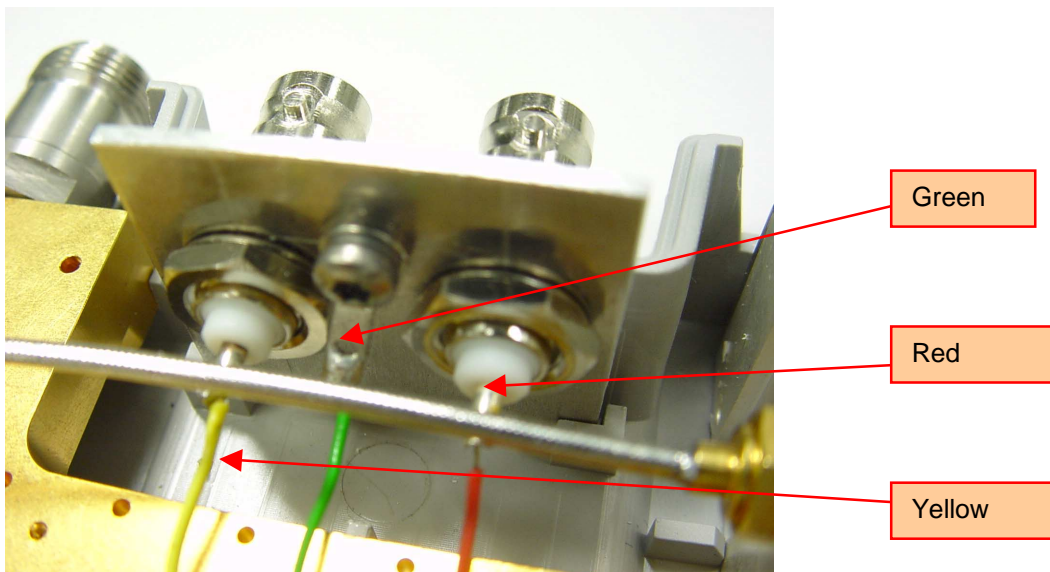

Fig. 3-5 Solder the wires to the pins
- Solder the green, red and yellow wires as indicated in Fig 3-5